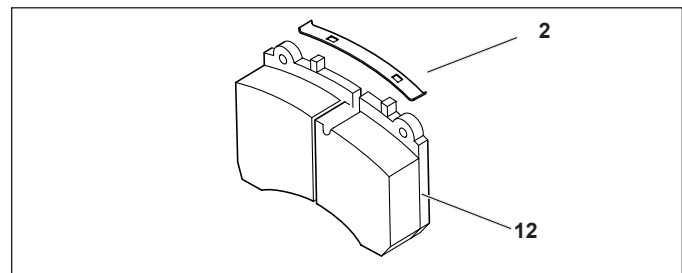

Figure 38 – Pad Retaining Spring Installation
4.2.16 Install the blue pad retaining springs (2) onto the brake pads (12) by inserting one end of the spring onto the lug at the top of the brake pad (See Figure 38). Carefully apply enough force to permit the second lug to fully engage, taking care to keep fingers etc. away from the spring as it seats.